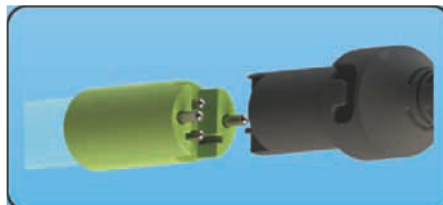

Figure 7. UV Lamp Connection
Step 14: You can now remove the UV lamp from its packaging being careful not to touch the lamp quartz with your hands. Again, the use of cotton gloves is recommended to avoid deposited oils on the lamp glass. Always hold the lamp by the ceramic ends. With the lamp outside of the unit, affix the UV lamp to the lamp connector as shown in Figure 7.